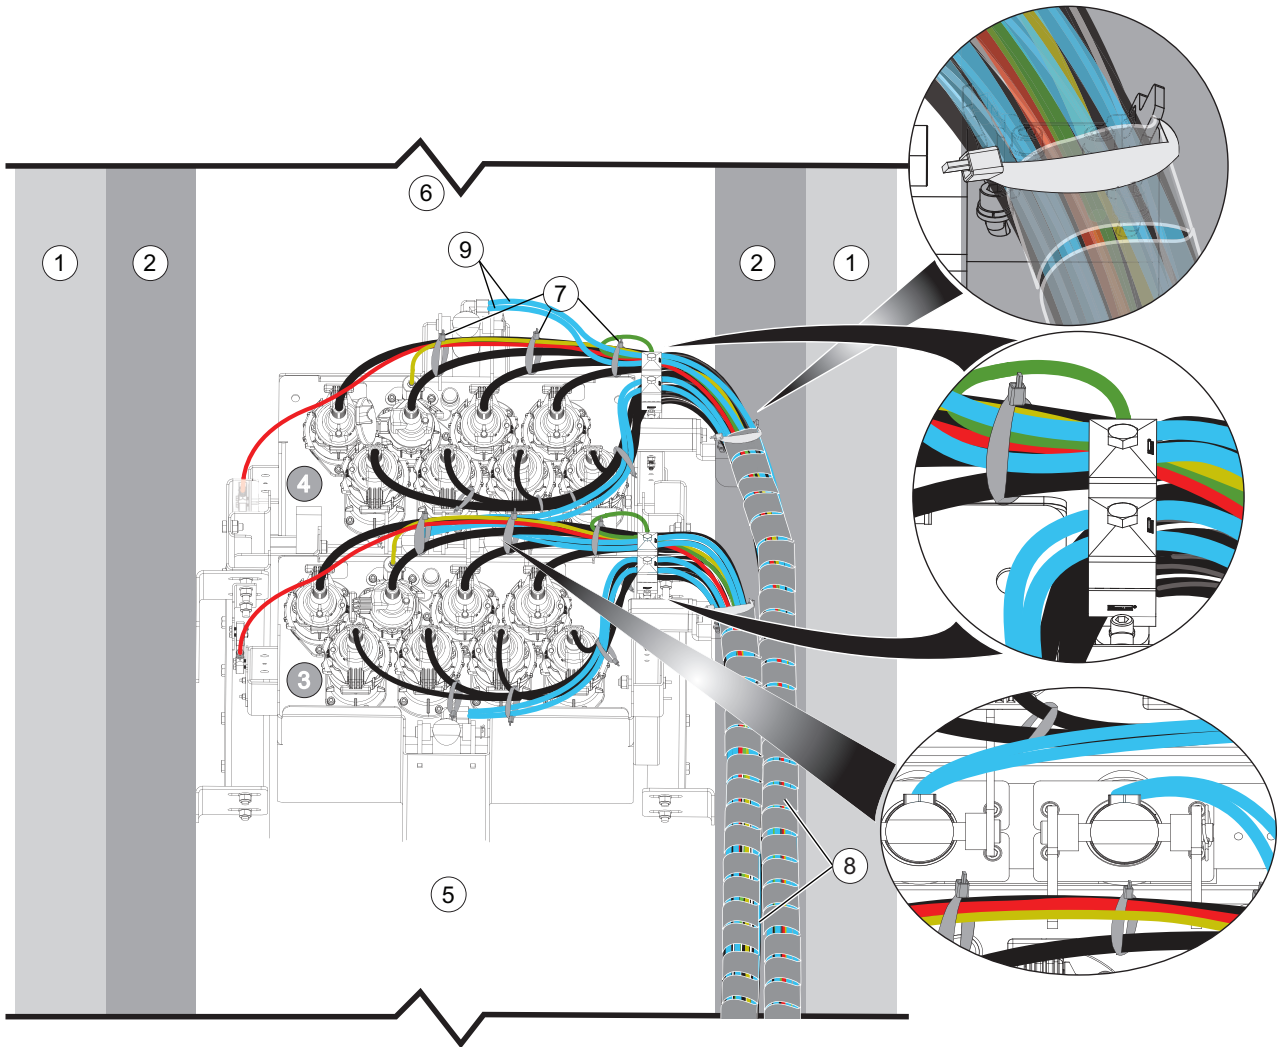
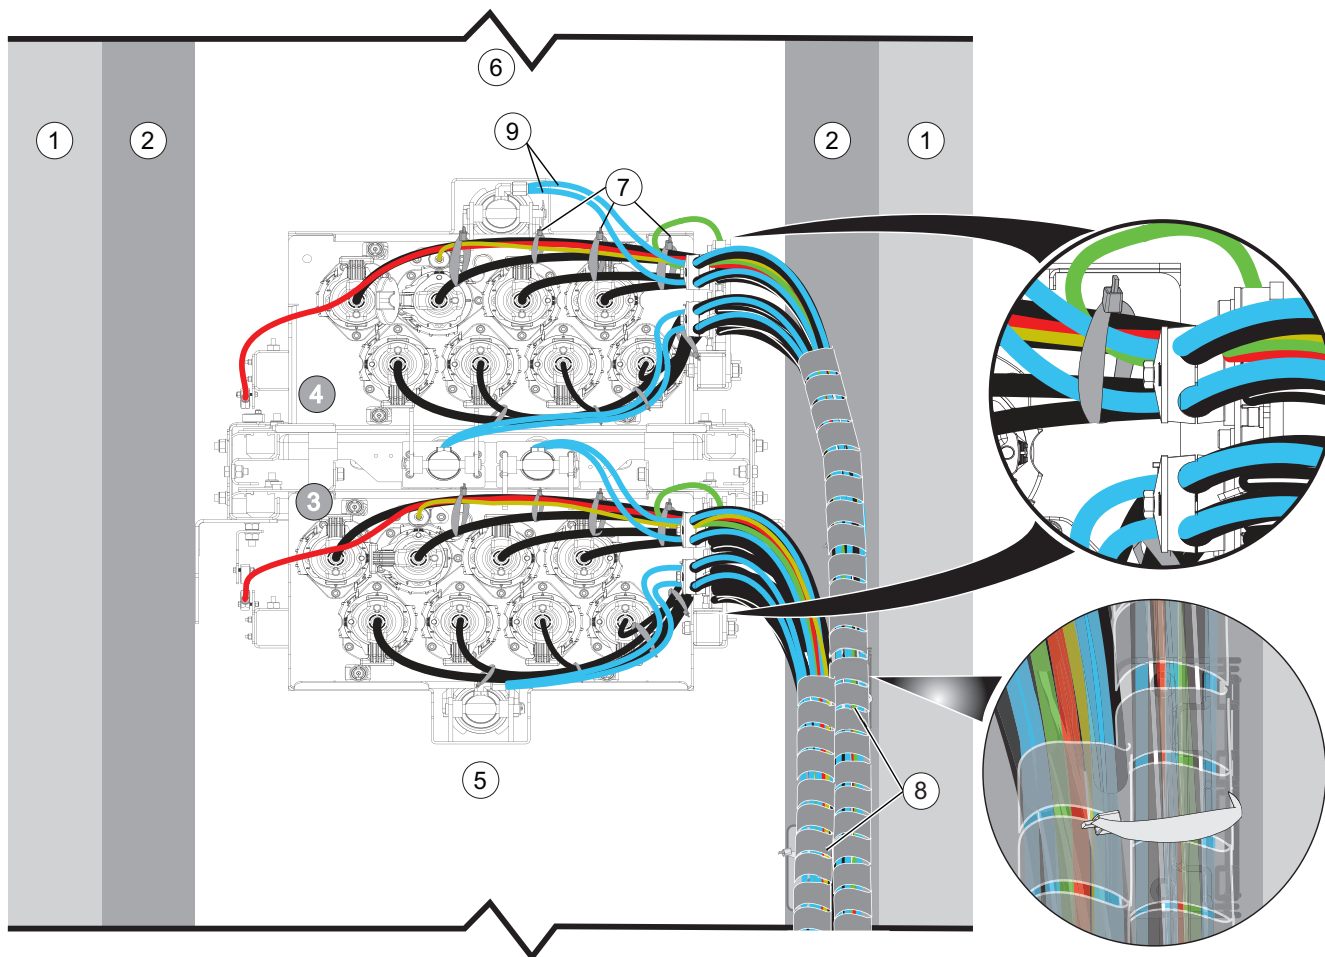

Figure 11 Cable Routing through Standard Bracket Assemblies - Spiral Wrap
Figure 12 Cable Routing through Deep Channel Bracket Assemblies - Spiral Wrap
3. Refer to Figures (Figure 11 and Figure 12).